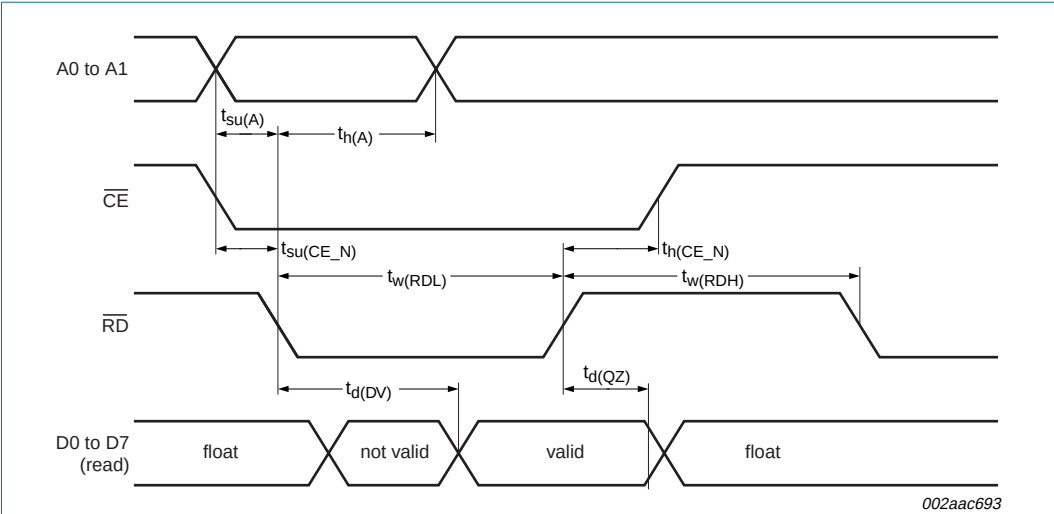

Fig 39. Bus timing (read cycle)
Bus timing (see Figure 39 and Figure 41)
[2] All voltage measurements are referenced to ground (GND). For testing, all inputs swing between 0 V and 3.0 V with a transition time of 5 ns maximum. All time measurements are referenced at input voltages of 1.5 V and output voltages shown in Figure 39 and Figure 41.
- [2] All voltage measurements are referenced to ground (GND). For testing, all inputs swing between 0 V and 3.0 V with a transition time of 5 ns maximum. All time measurements are referenced at input voltages of 1.5 V and output voltages shown in Figure 39 and Figure 41.